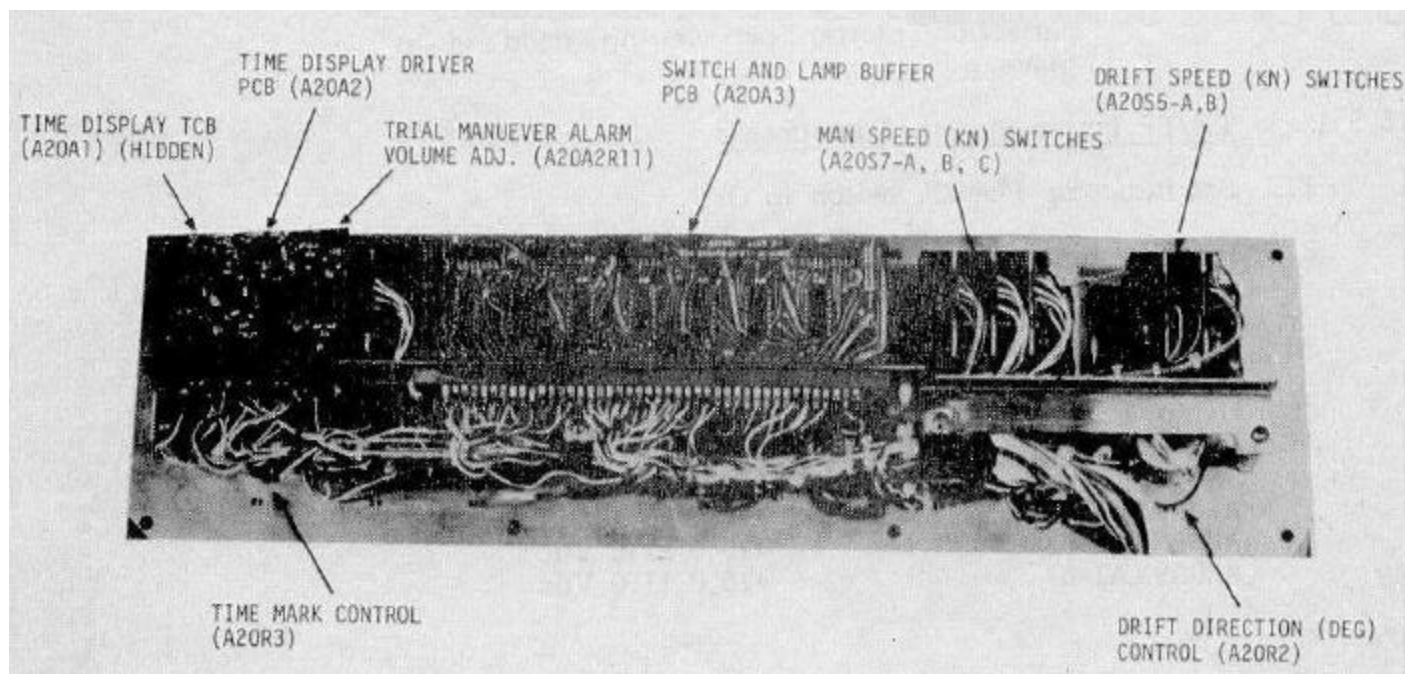

Figure 5-2 TM/EP Headset Control Panel Parts Location (Rear View)
- Figure 5-2 TM/EP Headset Control Panel Parts Location (Rear View)